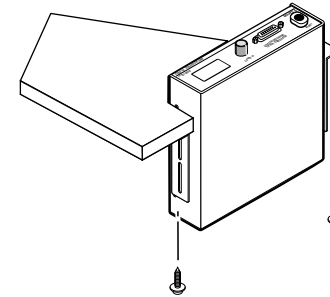

Figure 12 — Through desk mounting
- Using the four wood screws provided, attach the brackets to the mounting surface, as shown in figure 12.